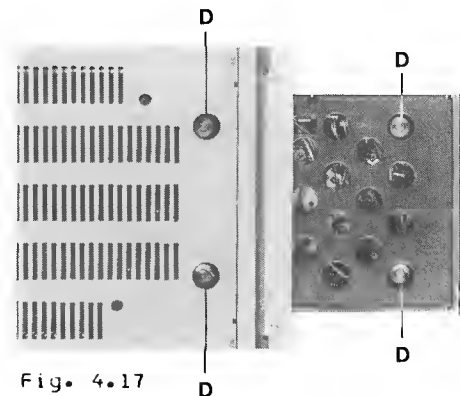

Fig. 4.17
- Switch CD player off and open the drawer manually about 3/4 of the way (the two rear brass screws should be visible through the openings in the bottom panel, see Fig. 4.17).